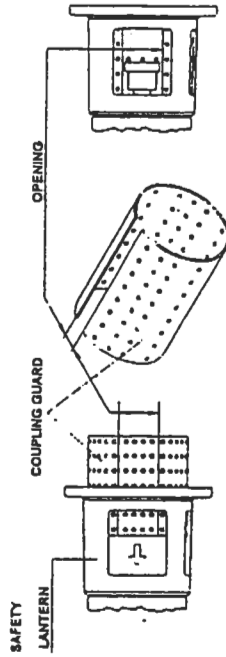
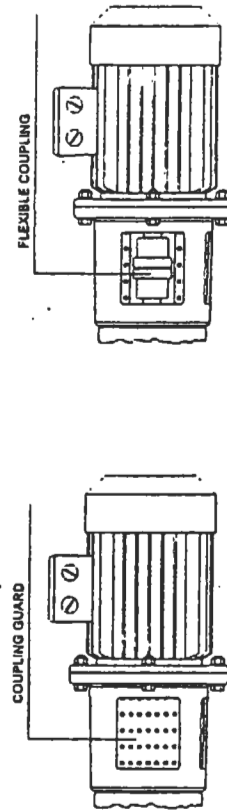

Fig. 7 - PREPARING TO ASSEMBLE THE MONOBLOCK DESIGN
Fig. 8 - CHECKING THE ALIGNMENT ON MONOBLOCK DESIGN
- 2 - Insert the perforated metal sheet coupling guard inside the lantern so that the coupling is accessible from one of the lateral openings. Couple the electric motor to the pump lantern engaging the two coupling halves. Hands may reach the coupling halves through the lateral opening (see fig. 7) tighten the assembly with bolts supplied with the unit and install the supporting foot, when applicable (see fig. 8).